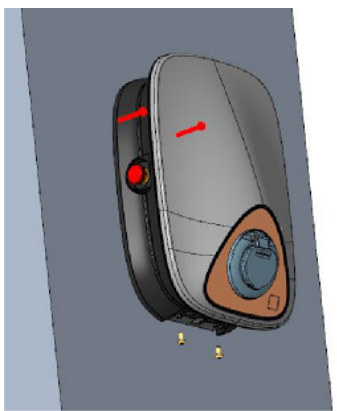

Figure A-9 Hanging charger and bottom fastening
10. Hang the charger through the two recessed buckles in the rear case and the two screws on the wall, screw in the two M6\*12 Torx screws below to tighten the charger and the wall hanging fitting, as shown in Figure A-9 As shown: